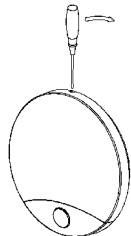

Figure1
- Unload the plastic cover to open it. (refer to figure1,2)